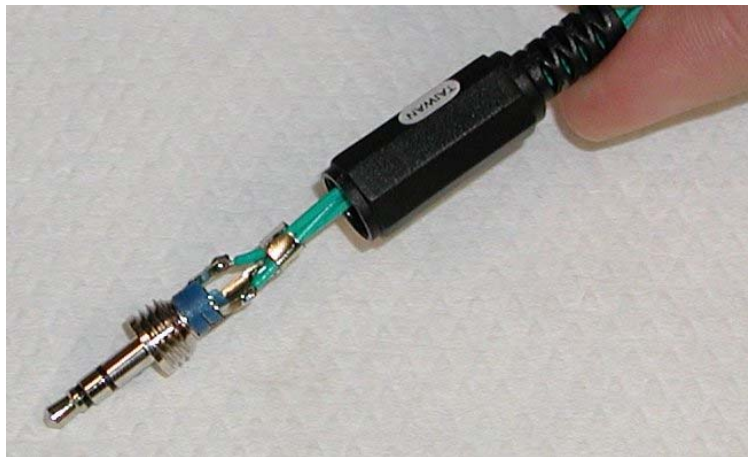

Figure 6: A soldered male headphone jack.
Male Headphone Jack: You have one male headphone jack in your lab kit. In order to plug this into your breadboard, you need to solder (pronounced saw-der) some wires onto it. Soldering is a process where you touch two wires together and then use a hot iron to melt metal (solder) over the junction. See Figure 6 for an example of a soldered jack. This was build using this simple procedure:
6. Use a soldering iron to melt a very small bit of each hook. See Figure 6 for an example of the result.